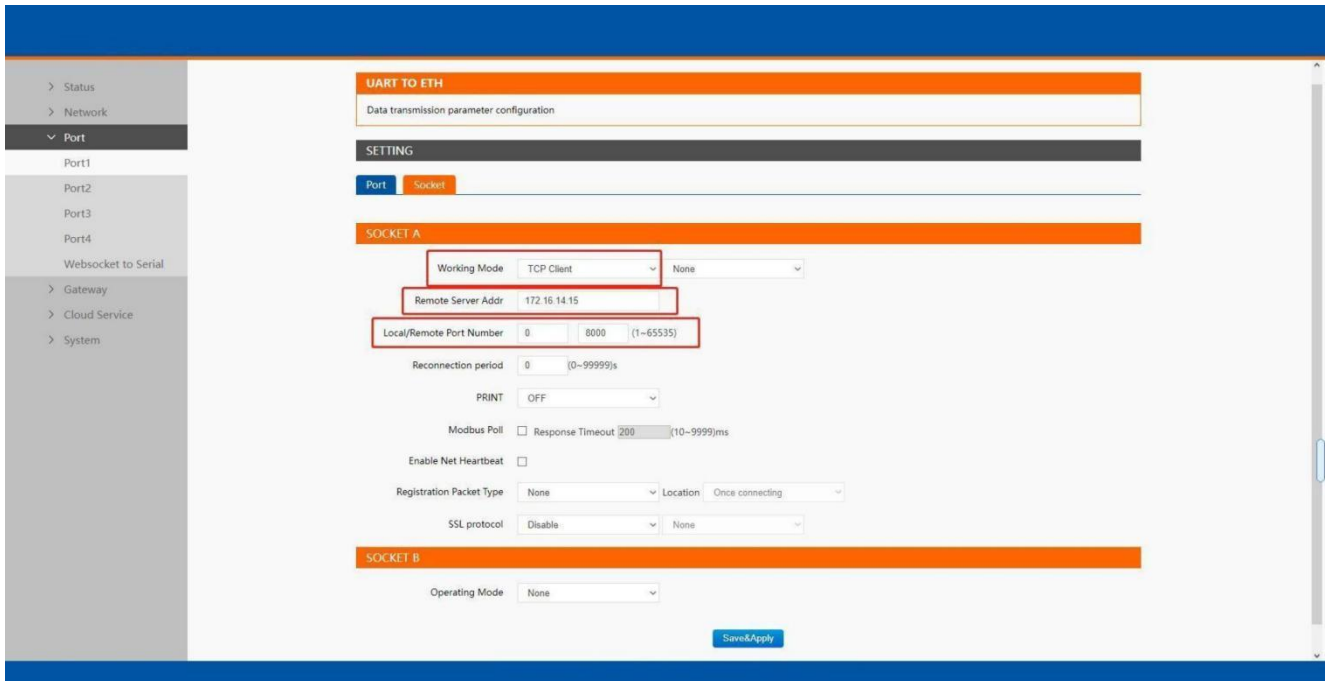

Fig.37 TCP client work mode
When the working mode of this device is TCP Client, the remote device must work in TCP Server mode, and its IP address and port number must be configured, which can be configured in the corresponding options of the network connection. The local port number can be ignored and no configuration is required. IoT-C104 supports SSL (TLS v1.0 or v1.2) data encryption in this operating mode. Fig.37 shows an example of configuration setting for TCP Client working mode under the Port1 socket page. You can configure other serial ports in the same way. There are additional connection settings that can be configured as shown in Fig.37.
1. Click on the "Port1" tab on the menu frame on the left side of Web UI to go to Port1 page as shown in Fig.37.